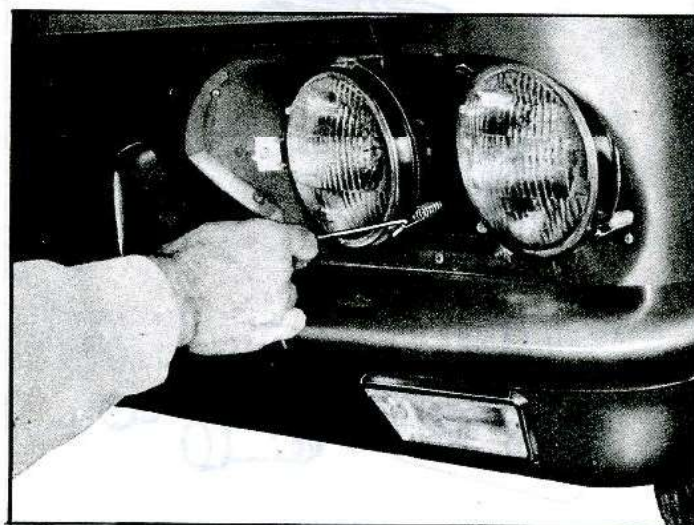

Fig. 10—Removing Retaining Ring Spring
2. Disengage retaining spring from unit (fig. 10). Turn lamp unit slightly to disengage unit from headlamp adjusting screws.